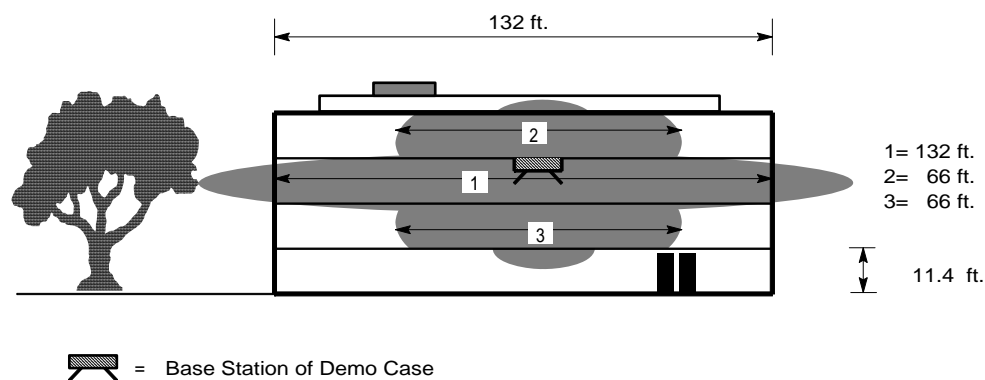

Fig. 3–2 Measurement of Typical Cell Size
2. Measure the horizontal cell size on the middle floor, see Figure 3–2, (1)
3. Measure horizontal range on floor above, see Figure 3–2, (2)
4. Measure horizontal range on floor below, see Figure 3–2, (3).
In this way the horizontal and vertical coverage of a single Base Station in a typical area is found. The cell size found can be taken as an average and used to calculate the total number of Base Stations. From Figure 3–2 it is clear that three Base Stations can cover a building as seen in Figure 3–1.